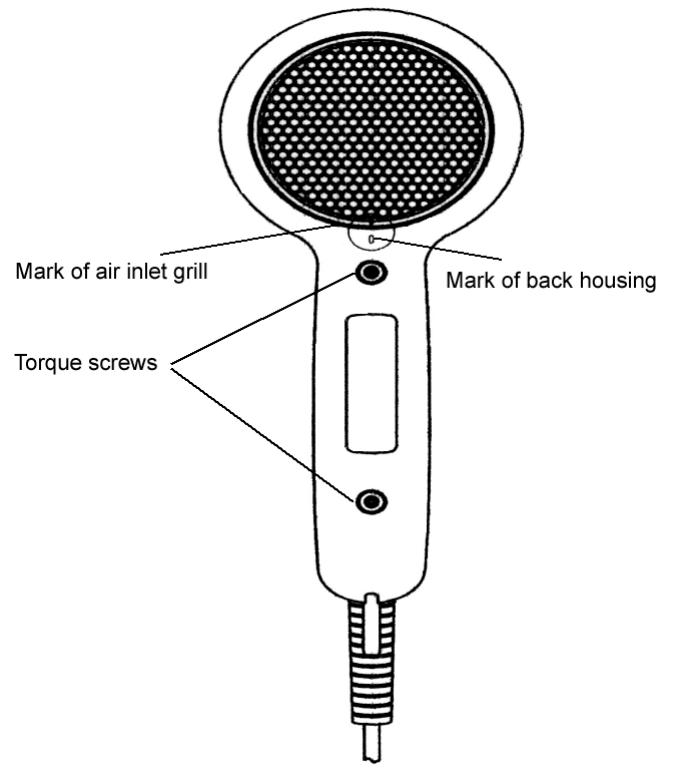

Figure 7
- (9) Assemble the air inlet grill into back housing with aligning mark of air inlet grill and mark of back housing as shown in Figure 7.
- (10) Assemble the housing with 2 torque screws at main body as shown in Figure 7.